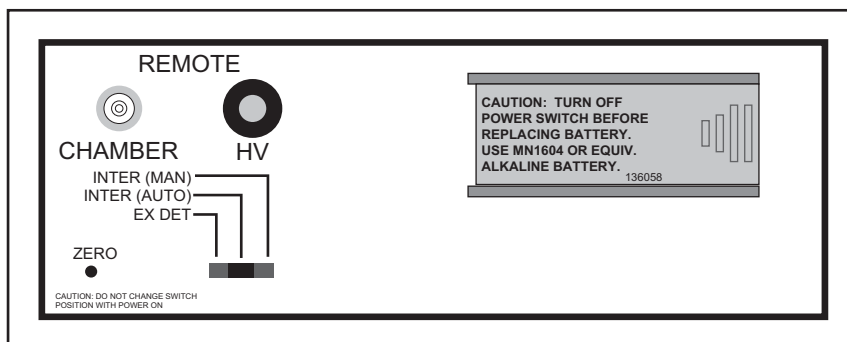

Figure 2-1. Rear Panel
3. Set the rear panel switch to the desired position, refer to Figure 2-1: